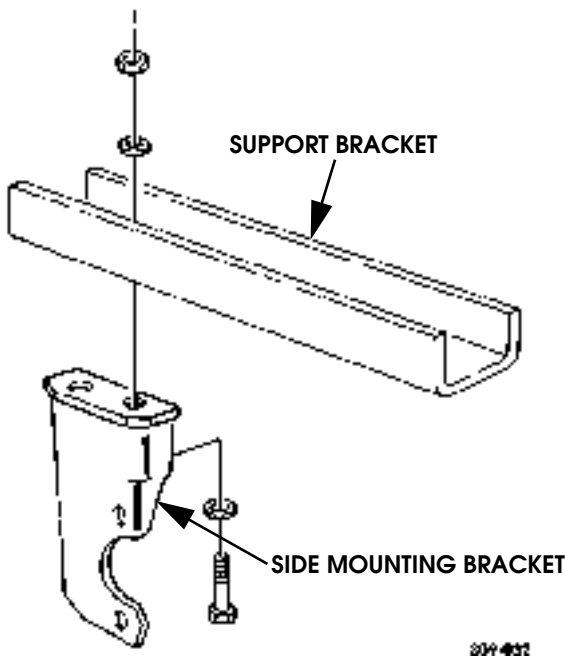

Figure 9-143: Support Bracket Replacement
6. Remove two locknuts, washers, bolts, washers, and side mounting bracket from support bracket (Figure 9-143).
1. Install side mounting bracket on support bracket with two washers, bolts, washers, and locknuts (Figure 9-143).